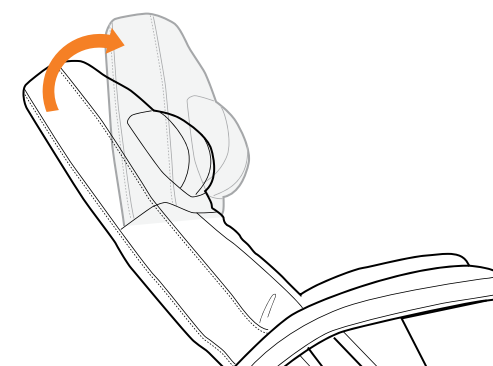

Fig.12
2. From the underside of the armrest, fasten the arm cap to the core using the two screws. Repeat these steps for the left-hand arm cap (Fig.12).
While seated, reach up with both hands and grasp both sides of the headrest. You will feel the rigid frame beneath the soft head pad. Grasping the rigid frame, tilt the headrest forward or backward for maximum comfort. The headrest remains in this position until you adjust it again (Fig.12).